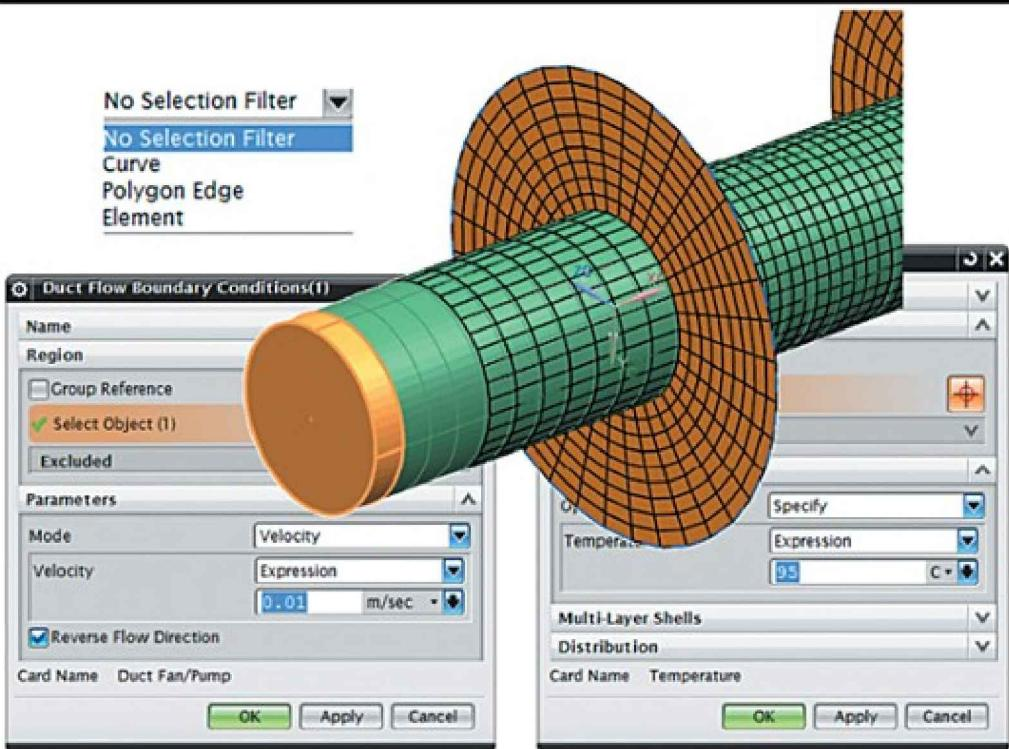

Figure 5.46. Specifying boundary conditions of the 1D duct
1. Specify flow parameters in the duct. To do so, use the **Duct Flow Boundary Conditions** tool. Describe the flow using the velocity of the heat-transfer fluid, which is equal to $V = 0.01$ m/s. If necessary, reverse the flow direction by selecting the corresponding check box. Apply this boundary condition to the first 1D element (for convenience, use the element selection filter), as shown in Figure 5.46.
To specify temperature, use the **Temperature** tool. Specify 95 °C as the temperature value in the same channel element where you specified the velocity of the fluid (Figure 5.46). No conditions are applied at the outlet of the duct. This means that no losses are considered for the fluid exiting the region in question (an outflow condition with zero loss coefficient is automatically defined).